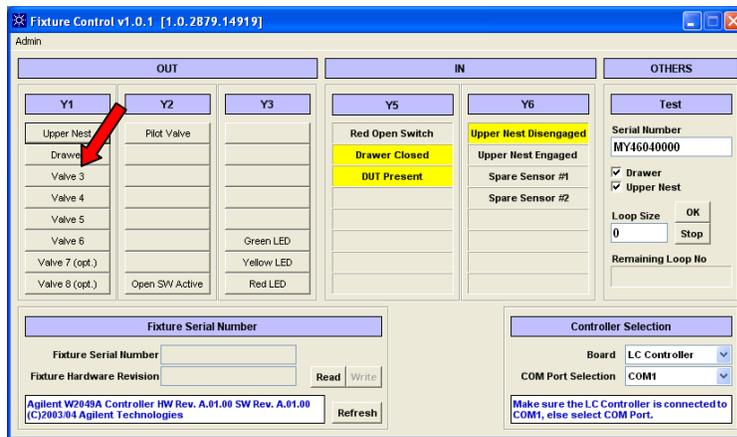

Figure 40: Clicking the *Drawer* tab again to close the drawer
- Next, click the *Drawer* tab again in the UI to close the drawer base as shown in Figure 40.